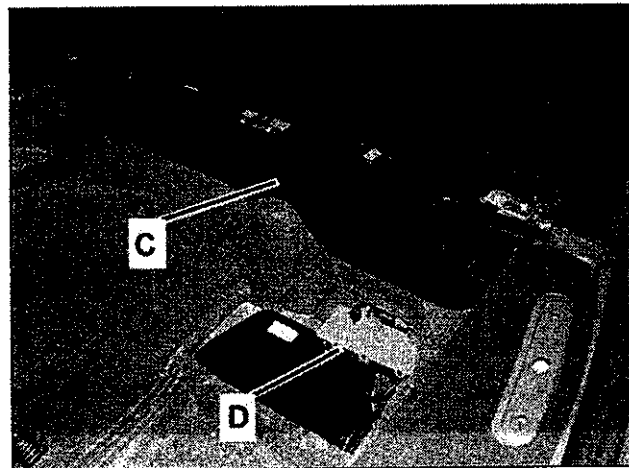

Figure 2
5. Remove 5 torx screws then remove right frame rail cover (C, Figure 2).
6. Unclip the tail gate closing control module (D, Figure 2) from bracket at hydraulic pump housing (Figure 2).